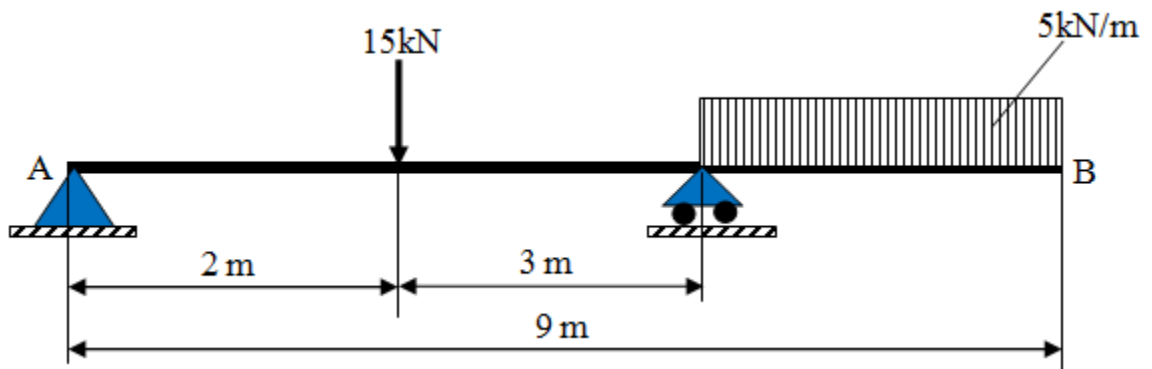

Figure Q1 (f)
- f) Determine the reaction at support A and B for the overhanging beam subjected to the loading as shown in Figure Q1 (f) (7 marks)